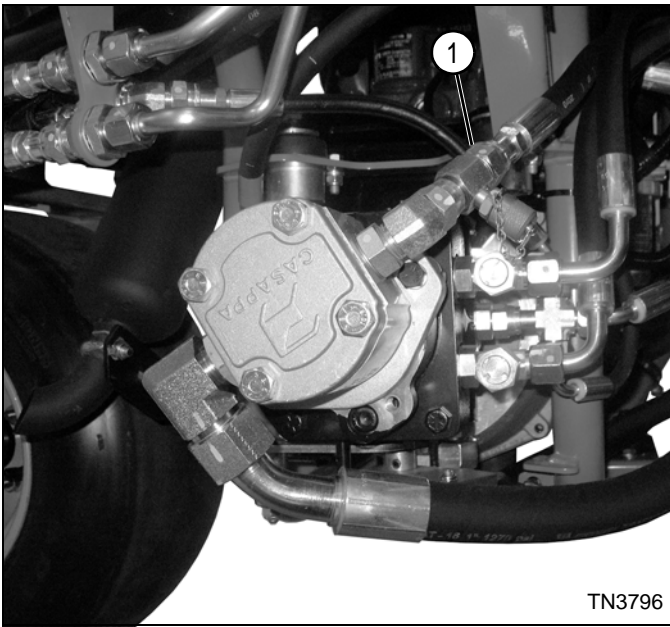

Figure 6-25
See Figures 6-25 through 6-27.
13. (See Figure 6-25.) Disconnect hydraulic hose (1) at tee fitting (3) and remove blocking disk. Reconnect hydraulic hose to tee fitting.